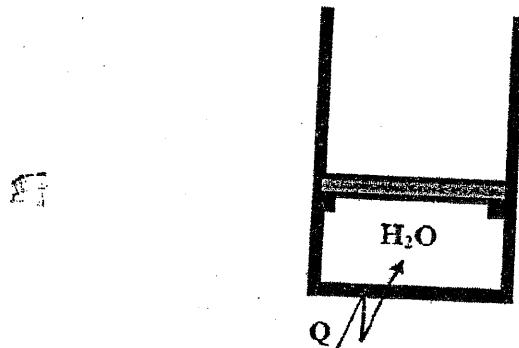

Figure P. 9
9. A piston cylinder device shown in figure P.9 contains 0.2 Kg of a mixture of saturated liquid water and saturated water vapor at a temperature of 50°C and a volume of 0.03m^3 . The mass of the piston resting on the stops is 50 Kg and the cross sectional area of the piston is 12.2625 cm^2 . The atmospheric pressure is 100 kPa. Heat is transferred until it becomes saturated vapor. Sketch the process on P-v and T-v diagrams and determine: